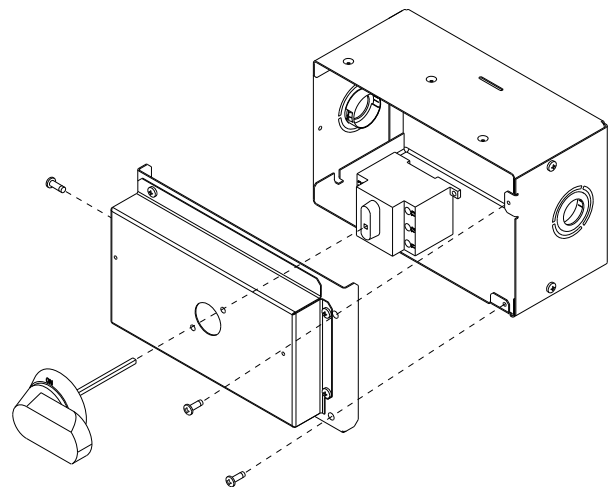

Fig. 20 — NFD Handle and Shaft Assembly
2. Remove (3) cap head screws that secure the NFD enclosure front cover — (2) on the face of the cover and (1) on the left side cover. (See Fig. 20.)
5. Insert the shaft with the cross pin on the top of the shaft in the horizontal position. (See Fig. 20.)
8. Turn the handle to the OFF position with red arrow pointing in the horizontal position. (See Fig. 20.)
10. Secure the handle to the painted cover with (2) screws and lock washers supplied.
11. Engaging the shaft into the handle socket, re-install (3) hex screws on the NFD enclosure.